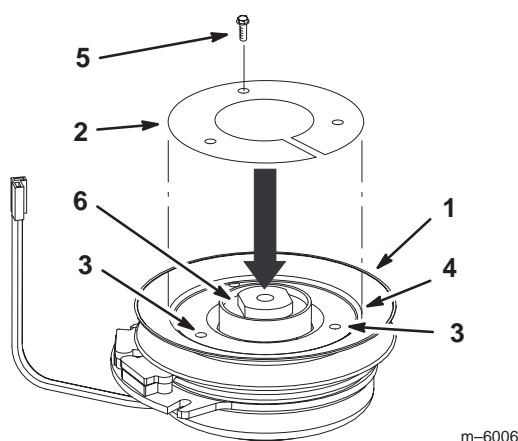

Figure 5
6. Position the template into the clutch pulley so the outside diameter is flush with the inside of the clutch flange (Fig. 5).
7. Using the template, drill one 1/8 inch pilot hole into the pulley (Fig. 5).
8. Install the screw (#6 x 1/2 inch) into the 1/8 inch hole (Fig. 5). This will hold the template in place while drilling the other two holes.
9. Using the template, drill the remaining two 1/8 inch pilot holes into the pulley (Fig. 5).
10. Remove the template and the screw (#6 x 1/2 inch) and discard (Fig. 5).
11. Drill 3 holes, 3/8 inch diameter, into the 1/8 inch pilot holes. (Fig. 5).